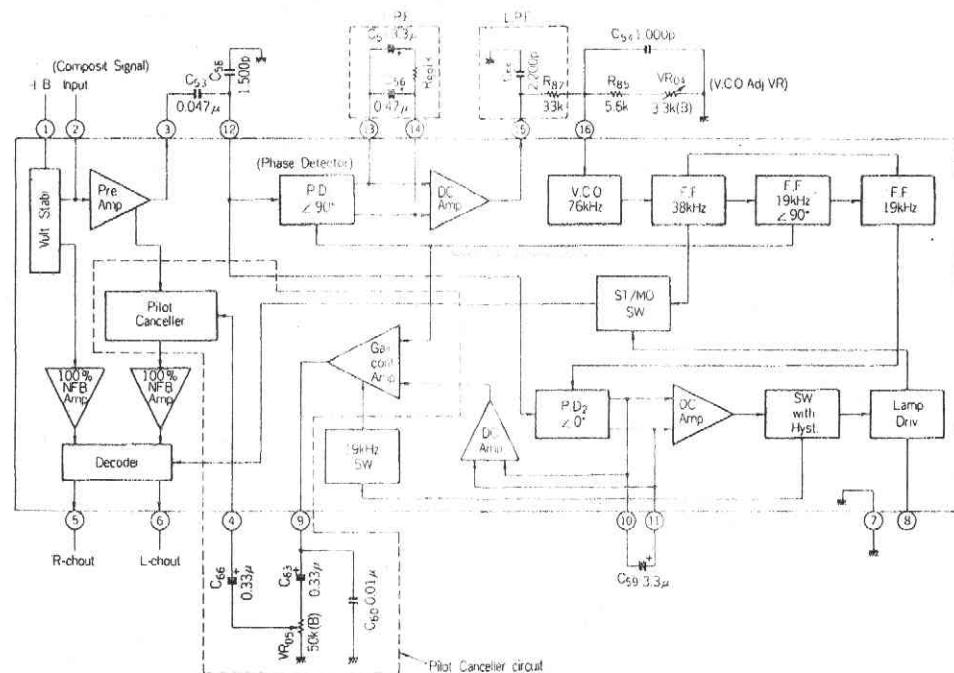

Fig. 2-4 Block Diagram of Digitally Quartz Locked System
(2) Digitally Quartz Lock System (See Figs. 2-4, 2-5)
- Digitally quartz lock system employed in this model is to lock the local oscillating frequency in every 100 kHz increment by adding lock voltage as AFC signal produced by frequency counter & D/A converter to the variable capacitance diode at local oscillator, and making a loop indicated by the large arrows in Fig. 2-4.
(3) Display System for Received Frequency (See Fig. 2-4)
- Display System for Received Frequency consists of FM (or AM) local oscillator, prescaler, frequency counter, display tube driver, and fluorescent display tube as shown in Fig. 2-4.
(4) Display system for SIGNAL (See Fig. 2-4)
(5) Display system for TUNE (See Fig. 2-4)